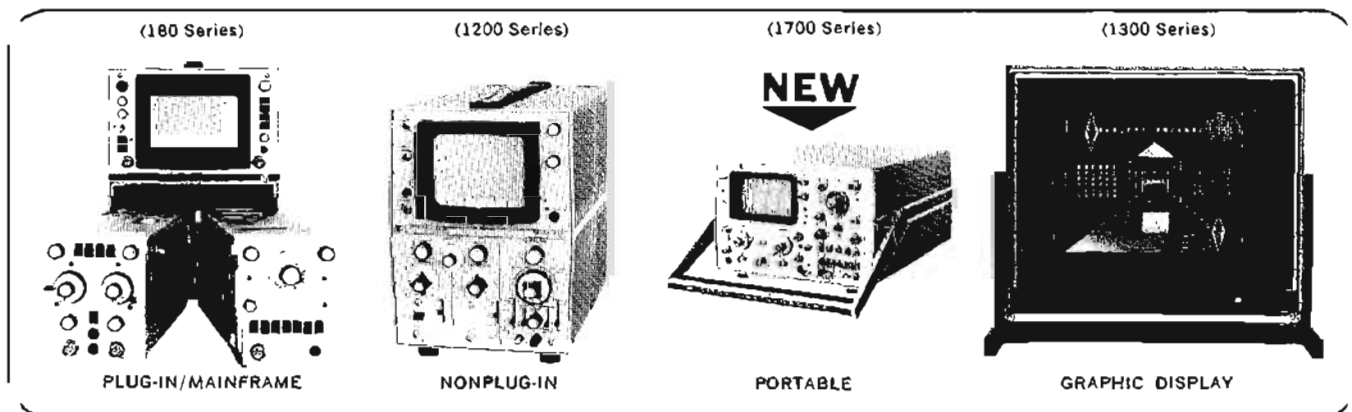

Figure 2. Hewlett-Packard scopes of four basic measurement types.
When you examine essentially all of the possible measurement requirements fulfilled by oscilloscopes, there are really perhaps only four types. In somewhat broad categories, these are: (1) plug-in/mainframe, (2) nonplug-in, (3) portable, and (4) monitor (or display). Following are some characteristics and typical applications for each type. Figure 2 shows representative scopes.